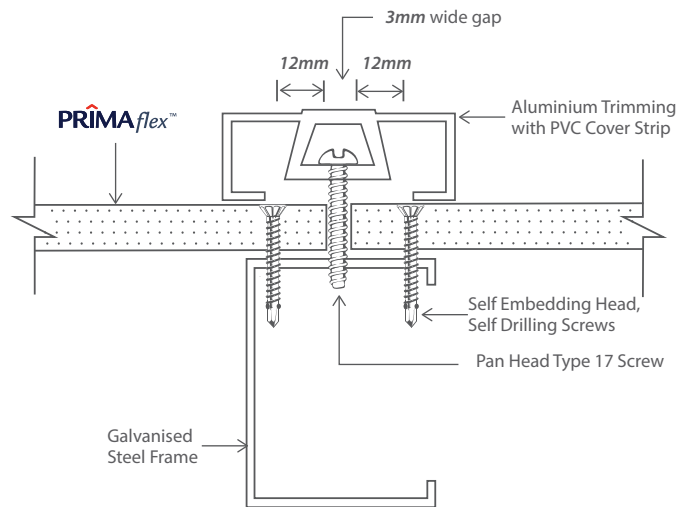

Figure 2.8: Aluminum Extrusion Joint
5. When PRIMAflex™ is applied as internal wall lining, the joint may also be decorated with aluminium extruded profile as shown in Figure 2.8.